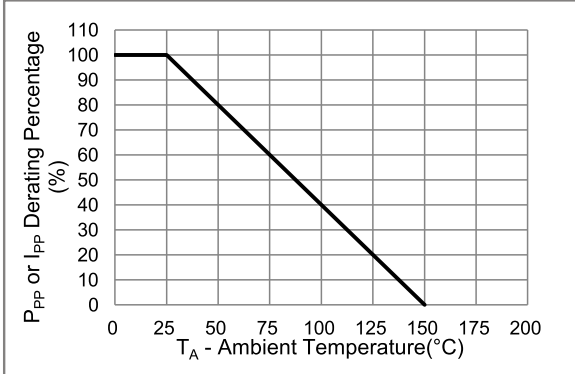

Fig.2 Derating Curve
1. Non-repetitive current pulse, per Fig.3 and derated above $T_A = 25^\circ\text{C}$ per Fig. 2.